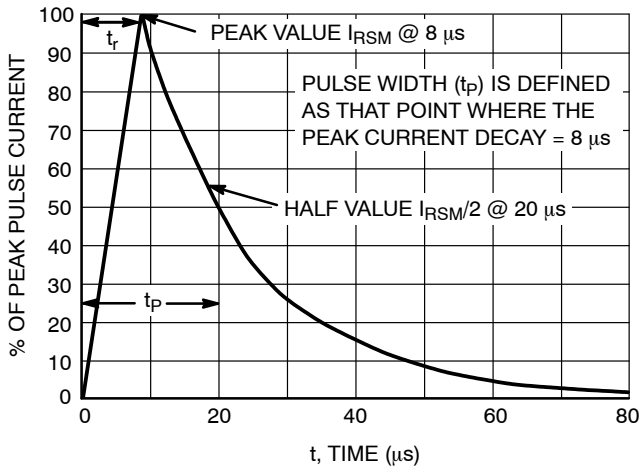

Figure 3. 8 $\times$ 20 μs Pulse Waveform
1. Non-repetitive current pulse per Figure 3
4. $8 \times 20 \mu\text{s}$ pulse waveform per Figure 3